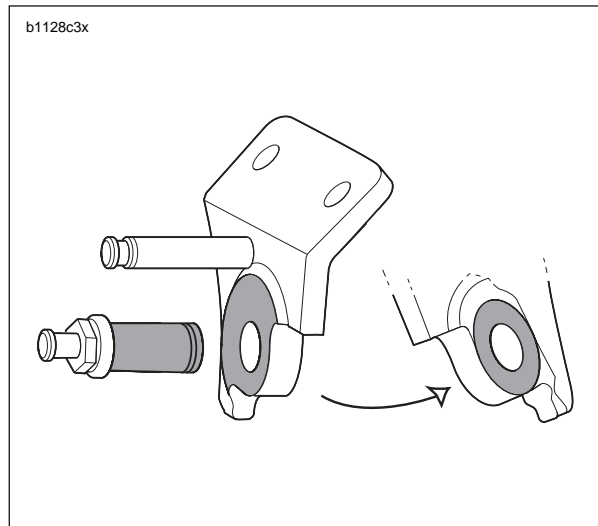

Figure 2-134. Lubricating Points (Shaded Areas)
- a. Lubricate sidestand pivot pin and mating portions on sidestand bracket with WHEEL BEARING GREASE (Part No. 99855-89) as shown in Figure 2-134.